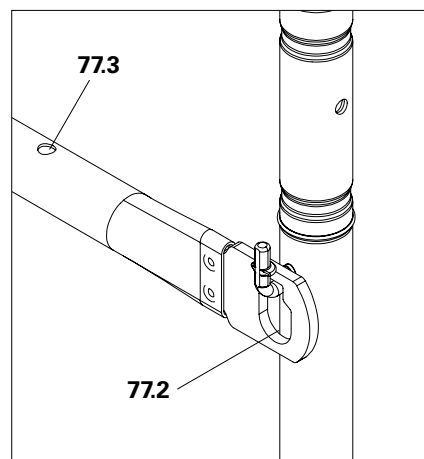

Fig. A3.01c
2. Attach the stair guardrail with keyhole (**77.2**) to the lower guardrail hook. (Fig. A3.01c)